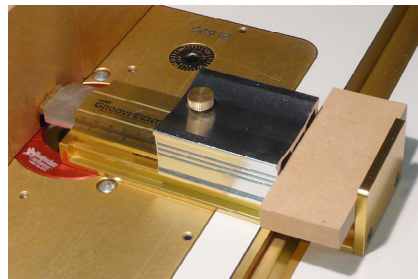

Fig. 2
6. With the Collet Pin inserted into the router collet, move the router table fence towards the GrooveCenter. The fence is in the correct position when it just touches the Fence Pin (**fig. 2**).